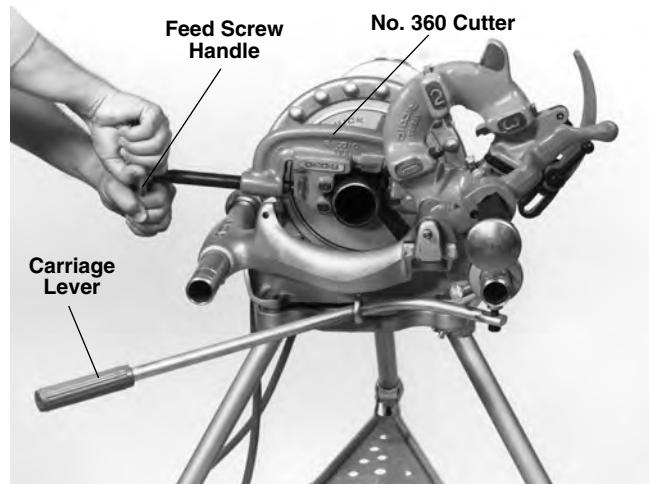

Figure 9 – Cutting Pipe with No. 360 Cutter
1. Check to insure the reamer and die head are in the UP position (Figure 9).
6. Grasp the pipe cutter's feed handle with both hands (Figure 9).